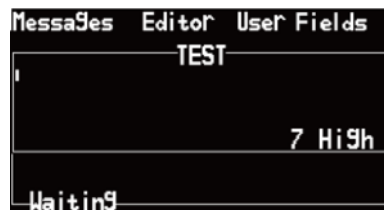

Figure 2-12. The Message Editor screen
3. Press the **Enter** Key. The **Message Editor** screen appears (See Figure 2-12).